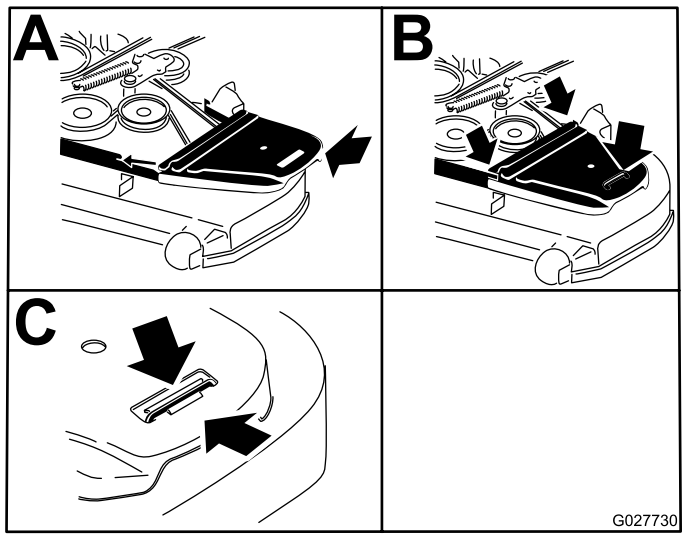

Figure 67
12. Install the belt covers (Figure 67).